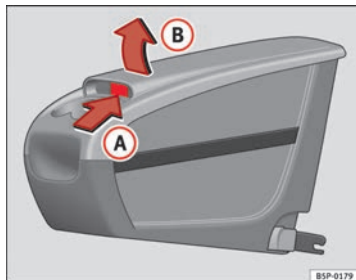

Fig. 113 Mobile storage compartment. Opening
- Lift the cover (B), in area (A) ⇒ fig. 113.